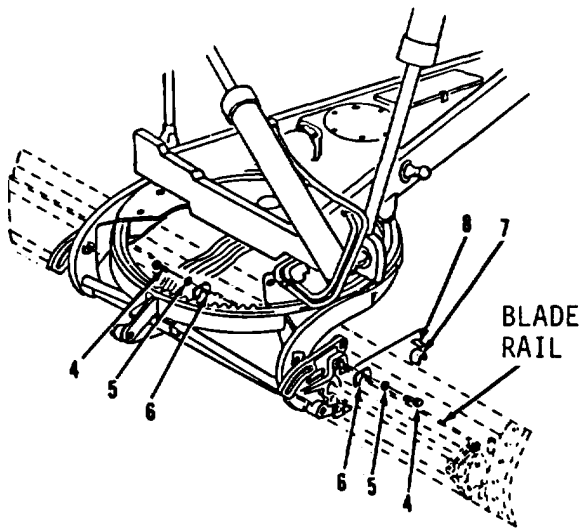

Figure 12-3.
- 12. Install shim(s) (8), five strips (7), ten plates (6), 40 washers (5) and bolts (4, Figure 12-3).